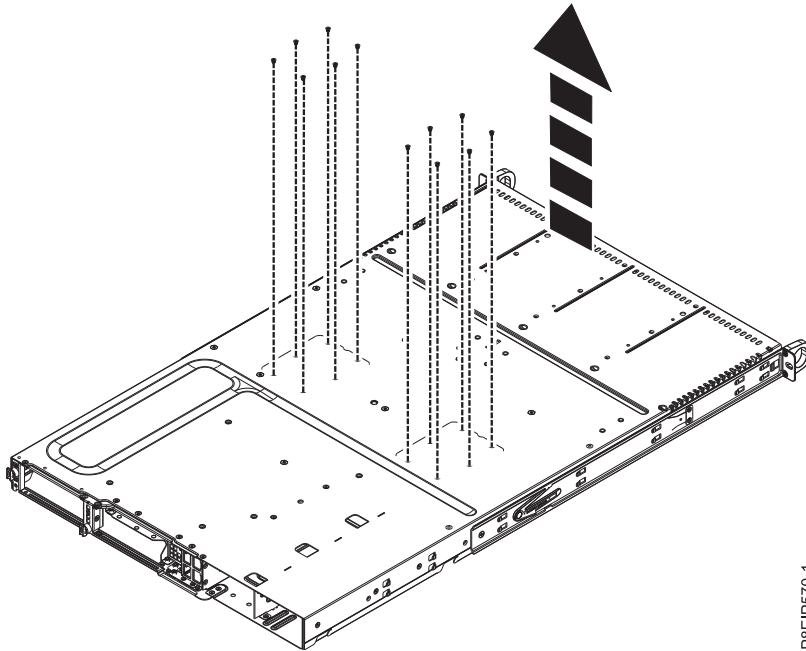

Figure 30. Processor socket screws on bottom of chassis
- b. Remove the 12 screws from the bottom. The screw locations are shown in Figure 30.